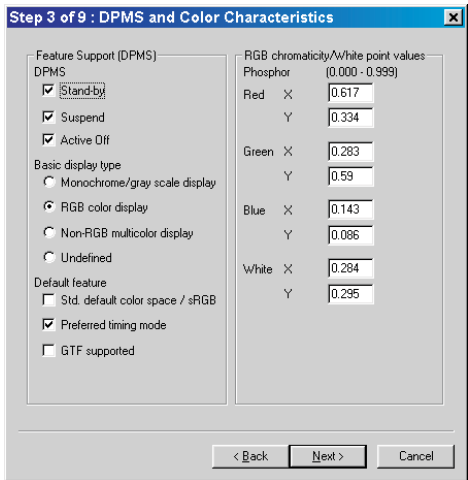

Fig. 20
2. Click Next , bring up Fig. 20.